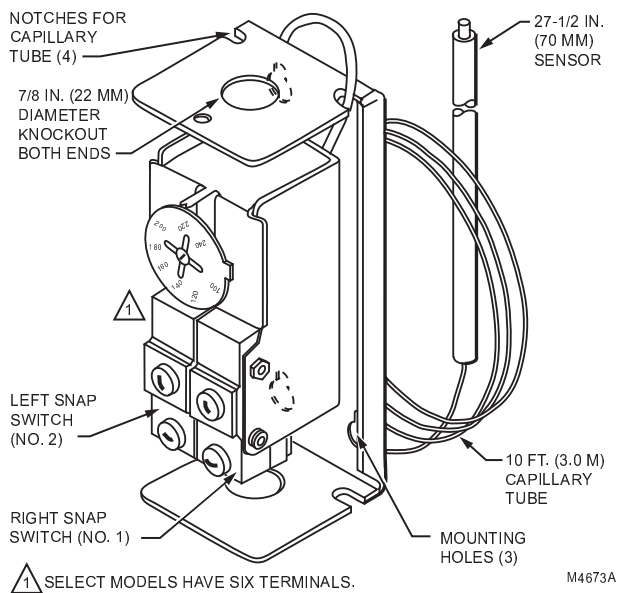
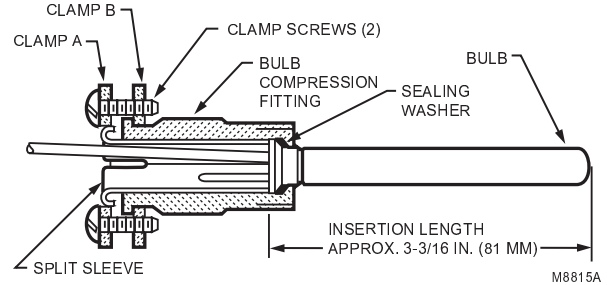
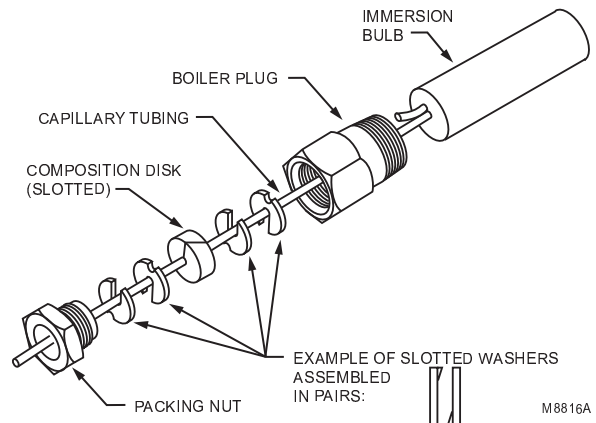

Fig. 9. Internal view of L4008L or L6008G.
**Fig. 10. Bulb compression fitting.
Fig. 11. Capillary compression fitting. Use with L4008.
The remote temperature-sensing bulb can either be installed in an immersion well (See Fig. 8) that extends into the boiler or tank, or it can be directly immersed in the controlled medium (See Fig. 9). For installations that do not use a well, secure the remote bulb with a bulb compression fitting (See Fig. 10), or capillary compression fitting. (See Fig. 11).
4. Slide the split sleeve into the fitting. (See Fig. 10).
4. Place the composition disk and four slotted brass washers on the tubing in the order shown in Fig. 11. Turn the brass washers so the slots are 180 degrees apart.